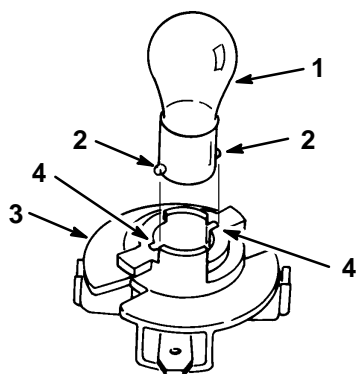

Figure 51
4. Push and rotate the bulb counterclockwise until it stops (approx. 1/4 turn) and remove the bulb from the bulb holder (Fig. 51).
1. The bulb has metal pins on the side of its base. Align the pins with the slots in the bulb holder and insert the base into the holder (Fig. 51). Push and rotate the bulb clockwise until it stops.